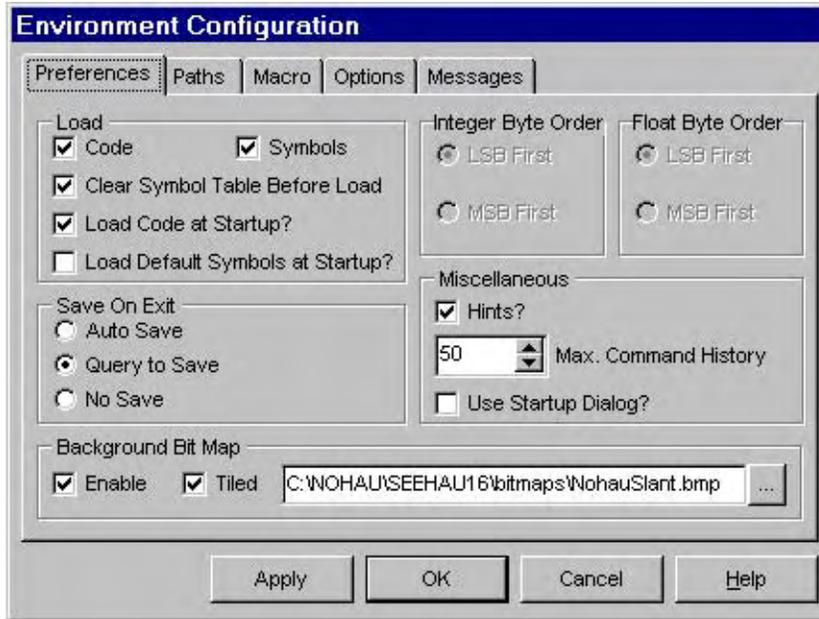

Figure 72. Environment Configuration Menu
2. From the **Environment** menu (Figure 72), check the **Use Startup Dialog** under the **Preferences** tab. This check box will be found under the **Miscellaneous** section.